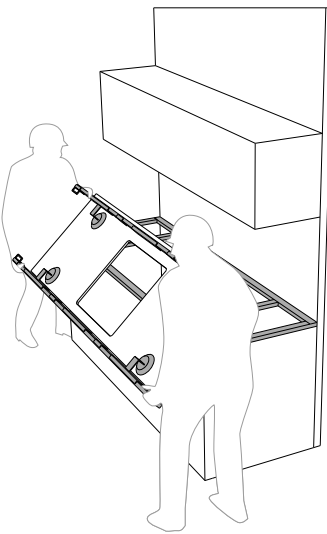

fig. 5
- For L-shaped or internal cuts within the slab, Mirage® recommends drilling holes at the vertices to prevent the surface from being damaged by the angle grinder blade (fig. 5);
Provide expansion joints of at least 3 mm between the countertop and the backsplash (if present) in order to accommodate wall irregularities or potential structural movements of the building, thereby avoiding excessive tension and subsequent cracking of the slab (fig. 5). The finishing strip must always be placed resting on top of the countertop and sealed with silicone.
- Next, the 2 pieces must be locked in place using suitable clamps, which must not be removed before the required drying time has elapsed (*fig. 5*).